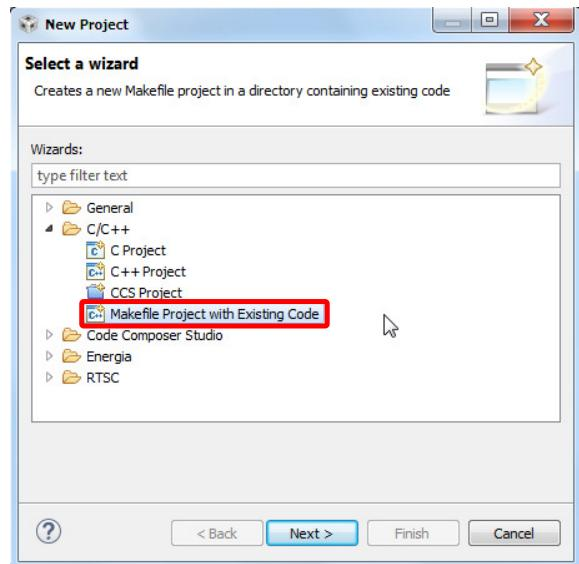

Figure 5.11: Select new wizard page
2. Click **File > New > Project...** to open the **New Project** dialog (see Figure 5.11 on the next page).
3. On the **Select a wizard** page, select **Makefile Project with Existing Code** (see Figure 5.11 on the facing page) and then click **Next**.